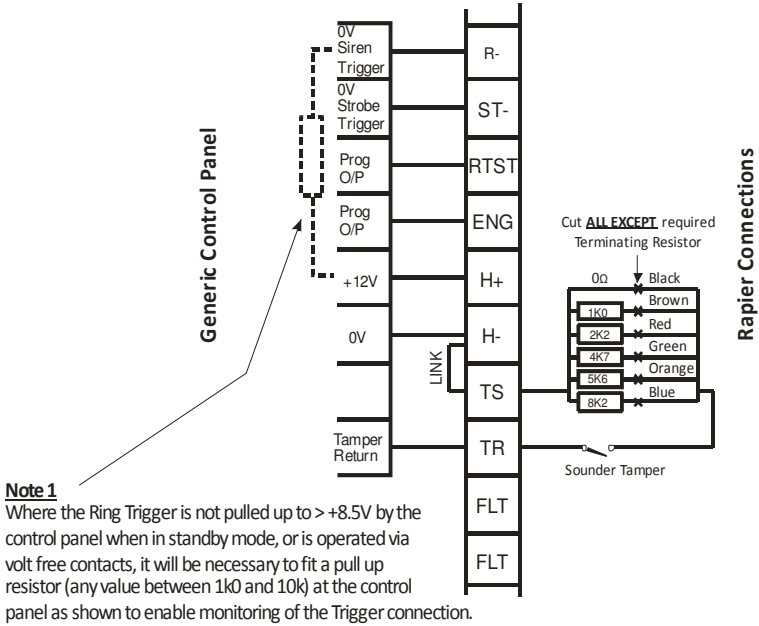

Fig 1: Single RAPIER-6510 Tamper Connection
The RAPIER-6510 sounder has provision for inclusion of an end of line resistor in the tamper circuit for both single (Figure 1) and multiple cascade installations (Figure 2). In cascade installations with two or more sounders, the TS (Tamper Source) will normally be connected to the TR (Tamper Return) of the next sounder except for the last unit which will have TS linked to H-. Only ONE end-of-line resistor should be selected in the last sounder, all other units should have 0Ω selected.
- 8) Connect cable cores to terminations. Figure 1, shows connections for generic control panels.
| | R- not pulled up to +12V in standby mode | Fit pull up resistor to R- at control panel. See Fig 1, Note 1 |
| | Tamper Source (TS) not connected to H- for single sounder or to Tamper Return (TR) for cascaded sounders | Refer to connection diagrams for single and cascaded sounders (Figures 1 and 2). |